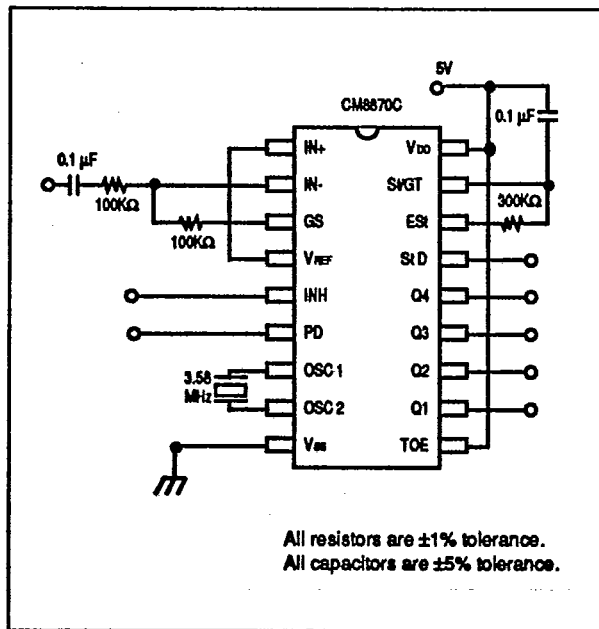
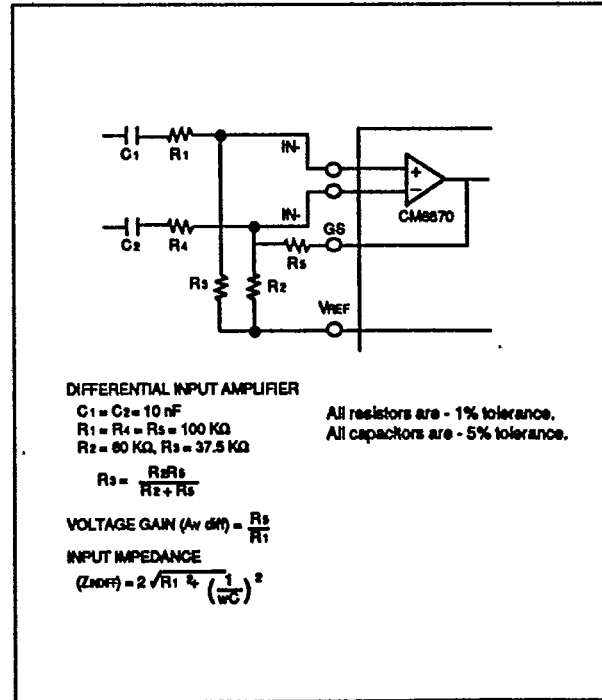

Figure 1. Single Ended Input Configuration
Figure 6. Differential Input Configuration
- Referenced to Figure 1. Input DTMF tone level at -28 dBm.
The value of tDP is a parameter of the device and tREC is the minimum signal duration to be recognized by the receiver. A value for C of 0.1 uF is recommended for most applications, leaving R to be selected by the designer. For example, a suitable value of R for a tREC of 40 milliseconds would be 300K. A typical circuit using this steering configuration is shown in Figure 1. The timing requirements for most telecommunication applications are satisfied with this circuit. Different steering arrangements may be used to select independently the guard-times for tone-present (tGTP) and tone absent (tGTA). This may be necessary to meet system specifications which place both accept and reject limits on both tone duration and interdigit pause.
In a single-ended configuration, the input pins are connected as shown in Figure 1 with the op-amp connected for unity gain and VREF biasing the input at 1/2 VDD. Figure 6 shows the differential configuration, which permits the adjustment of gain with the feedback resistor Rs.